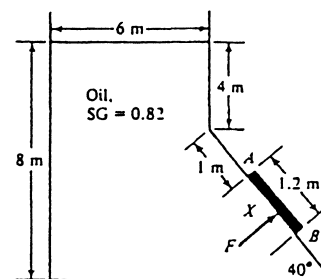

Fig. P2.51
**2.51** Gate AB in Fig. P2.51 is 1.2 m long and 0.8 m into the paper. Neglecting atmospheric-pressure effects, compute the force  $F$  on the gate and its center of pressure position  $X$ .